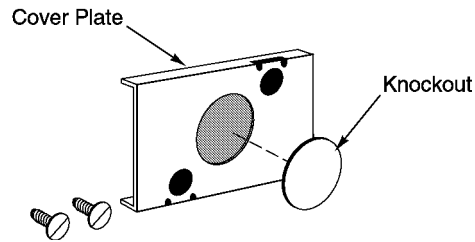

Figure-9 Cover Plate Knockout Removal.
1. Remove the knockout from the cover plate supplied with the actuator. Refer to Figure-9.
2. Slip the leads through a standard 1/2" conduit bushing (not supplied) and the knockout hole in the cover plate. Refer to Figure-9 and Figure-10.